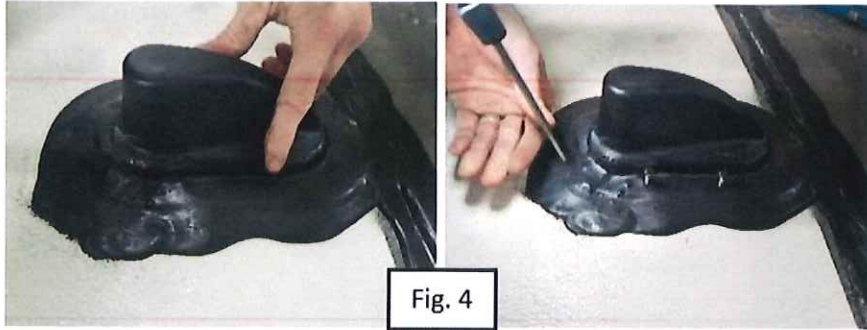

Fig. 4
1. Locate the fasteners securing the antenna to the roof of the coach. Using a screw gun with square head bit, remove them through the self-level. (Figure 4)